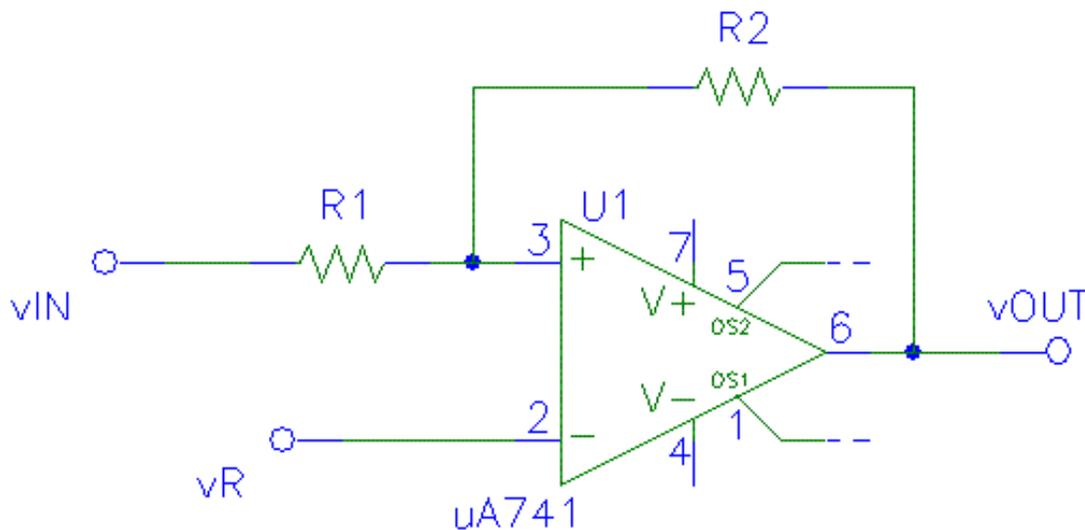

Figure 1 - Comparator Circuit
a. For the comparator circuit shown in figure 1,
(1) Find expressions for the threshold voltages  $V_{T1}$  and  $V_{T2}$  in terms of  $R1$ ,  $R2$  and op amp limited voltage (of magnitude  $V_O$ ). Explain your calculations.
(2) Plot the transfer characteristic and display the direction of switching levels.
(3) If  $V_R = 0$ ,  $V_{T2} = -V_{T1}$  and an input sinusoid of frequency,  $f = 1/T$ , is applied to such a comparator, the output will be symmetrical square wave, of half period  $T/2$ . The vertical edge of the output waveform will not occur at the time the sine wave passes through zero, but will be shifted in phase by  $\phi$ , where  $\sin \phi = V_{T2} / V_m$  and  $V_m$  is the peak sinusoidal voltage. Plot this statement by drawing clearly the output lined up in time with the input, showing delay time if a 4V peak sinusoid is applied and  $R2 = 5R1$ . Assume the peak output is 14V.
- (6) How must  $V_R$  be chosen if  $V_{T1} = -V_{T2}$ ? With your newly chosen  $V_R$  and from preliminary question a(3), draw clearly the output lined up in time with the given sinusoid input if  $R_1 = 13R_2$ . Show all relevant values.
- (7) If the threshold voltage  $V_{T2}$  is zero and the hysteresis is  $V_H = 0.2V$ . Calculate the time duration of the positive and negative portions of the output waveform for a 1KHz sine wave input whose peak-to-peak value is 4V. Draw the output waveform lined up in time with the input and show all relevant values.
- (8) For the Schmitt trigger circuits, as the loop gain  $|b A_v|$  increases from zero to unity we note that the transfer gain  $A_{vf}$  increases from 14,000 toward infinity. There is no hysteresis as long as  $-b A_v \ll 1$ . Elaborate on the consequences resulting from an adjustment which ensures that the maximum loop gain is unity ( $b A_v = 1$ ).  $A_{vf} = A_v / (1 - b A_v)$
- (9) In practice, a loop gain in excess of unity is chosen and a small amount of hysteresis is tolerated for the Schmitt Trigger explain what will happen if the threshold voltage range is larger than the peak-to-peak signal.
- (10) If noise spikes, positive and negative are present on the input signal to the circuits in the neighborhood of the amplitude  $V_R$ . Explain why the output may "chatter" (i.e., change from one state to the other). Is this difficulty avoided in a Schmitt trigger (i.e., when positive feedback or regeneration is added to a comparator)? Explain.
- (11) Sketch the circuit of a noninverting Schmitt trigger. Find expressions for the threshold levels  $V_{T1}$  and  $V_{T2}$ . Plot the transfer characteristics and show all relevant values. Draw the output waveform lined up with time with a sinusoid input signal.